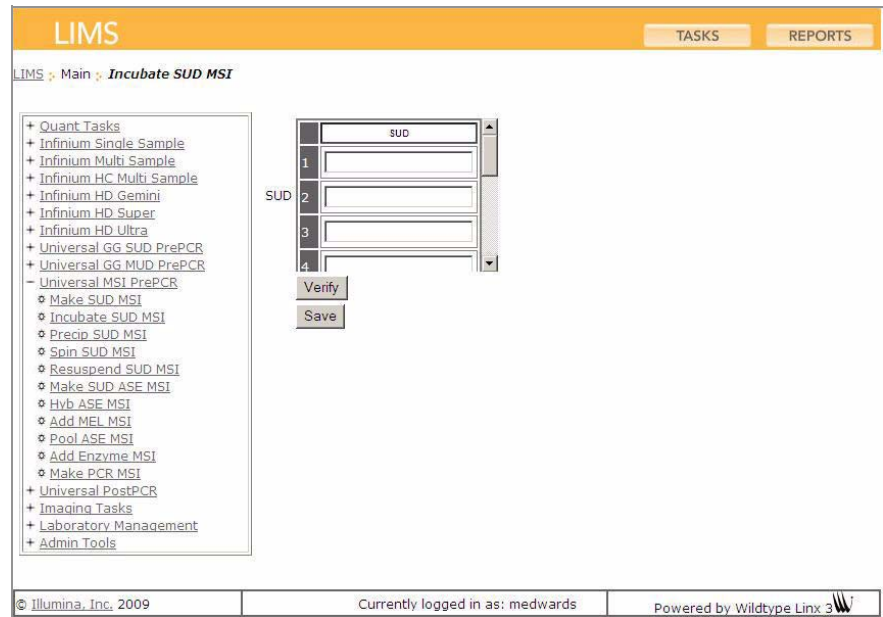

Figure 15 Illumina LIMS Incubate SUD MSI Plate
- a. Select **Universal MSI PrePCR | Incubate SUD MSI** (Figure 15).